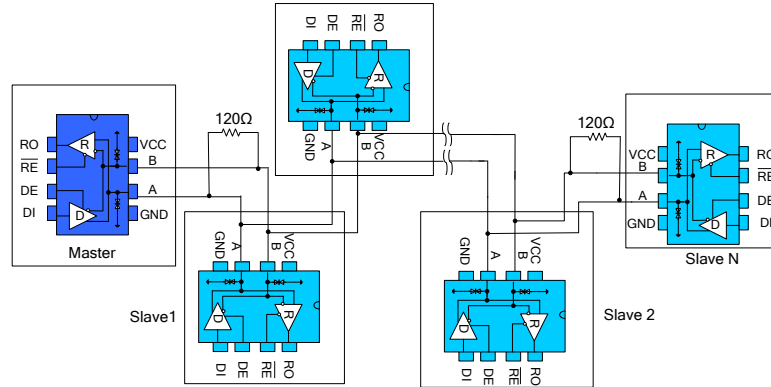

Figure10 Hand in hand RS485 half-duplex communication network
4.2 Hand in hand Networking: also known as daisy chain topology, is the standard and specification of RS485 bus wiring, and is the RS485 bus topology recommended by TIA and other organizations. The wiring mode is that the main control equipment and a plurality of slave control equipment form a hand-held connection mode, as shown in Figure 10, and the hand-held mode is no branches. This wiring mode has the advantages of small signal reflection and high communication success rate.